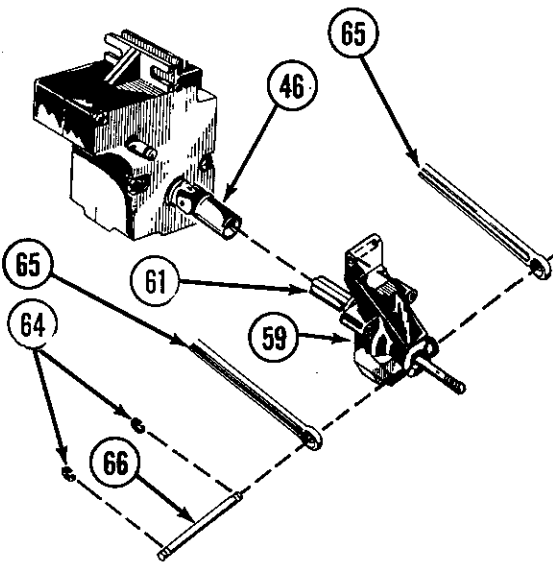

FIG. 28
23. Position a hub carrier assembly for appropriate side between free ends of suspension links (65). Fig. 28.
24. Place one 1/8" E-clip (64) in one groove in 1/8" x 1.420 hinge pin (66). Fig. 28.
25. Slide 1/8" x 1.420 hinge pin (66) through free end of suspension link (65). Fig. 28.
26. Secure pin by placing 1/8" E-clip (64) in groove in hinge pin (66). Fig. 28.
27. Hold chassis (2) level and let hub carrier assembly dangle. Align the splines in the drive shaft halves (46)(61) and insert male half (61) into female half (46). Swing hub carrier assembly back up to level with chassis (2) and check for freedom of travel. Fig. 28.